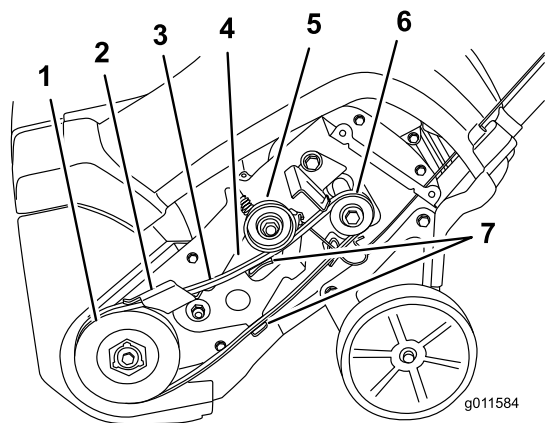

**Figure 32**
1. Remove the 4 bolts that hold the drive belt cover (Figure 32) in place.